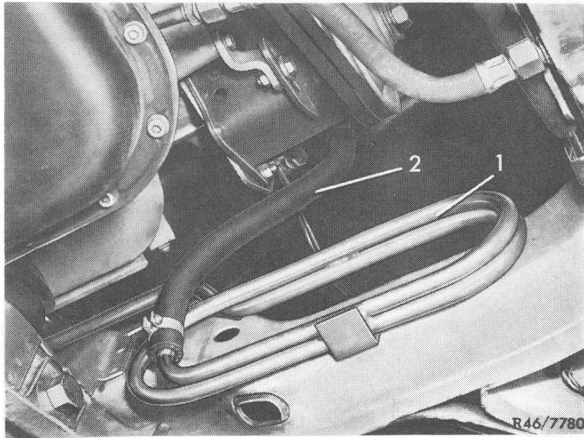

Fig. 19
To reduce the oil temperature on model 116 with V-8 engine, the return oil coming from the power steering is additionally guided through the oil cooling pipe (1) attached to the frame side member (Fig. 19).